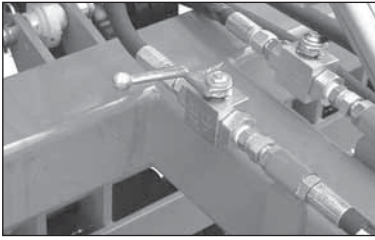

Fig 1
- 2 **Important** - To avoid machine damage due to drill lowering during transport, always close the hydraulic valve on the drawbar. Move the handle to a position at 90° to the hydraulic line as shown in Fig 1. This applies to the drawbar and disc opener hydraulic valves where fitted.